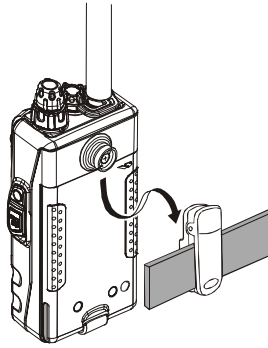

Figure 3
- ❑ To install the **VX-170** into the Quick-Draw Belt Clip, align the hanger with the Quick-Draw Belt Clip, and slide the **VX-170** into its slot until a click is heard (Figure 3).